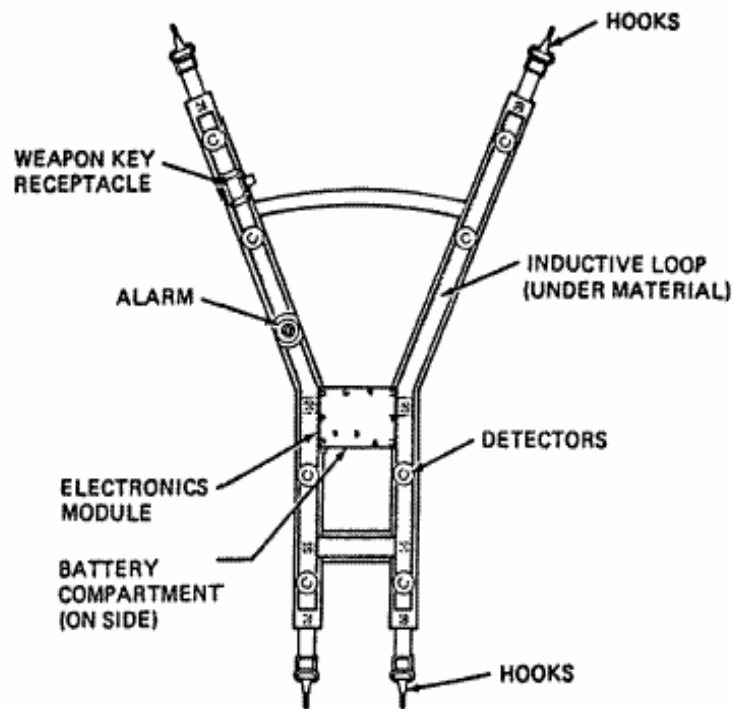

FIGURE 3-2. Torso Harness Assembly
Refer to Figure 3-2 for an illustrated view of the Torso Harness assembly which consists of the following major parts.
To install the Torso Harness battery, perform the following procedures (refer to Figures 3-2 and 3-9):
5. To turn off the alarm, insert the yellow WEAPON key in the Torso Harness key receptacle (refer to Figure 3-2) and turn it clockwise.